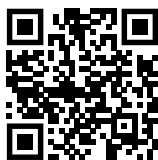

Fig. 127
- ▶ Open Liebherr SmartMonitoring Dashboard. (see Fig. 127)